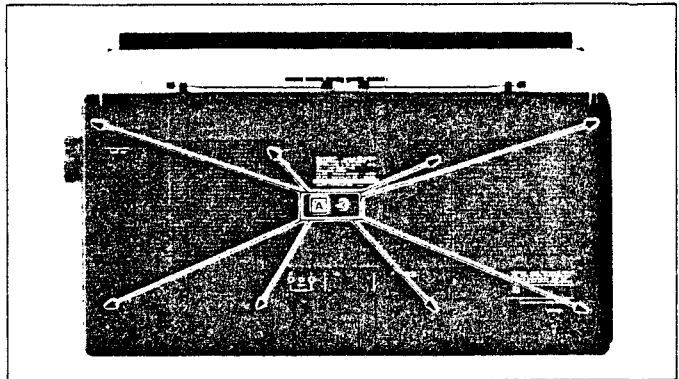

Figure 2
- A FRONT CABINET REMOVAL** (Refer to Figures 2 and 3)
3. Remove eight (8) screws retaining the front cabinet.
4. Open the battery compartment cover and remove one (1) screw retaining the front cabinet. (GF-9191E only).
5. Gently pull out the front cabinet and disconnect four (4) tips (Speaker) connected to the main P.W. board.